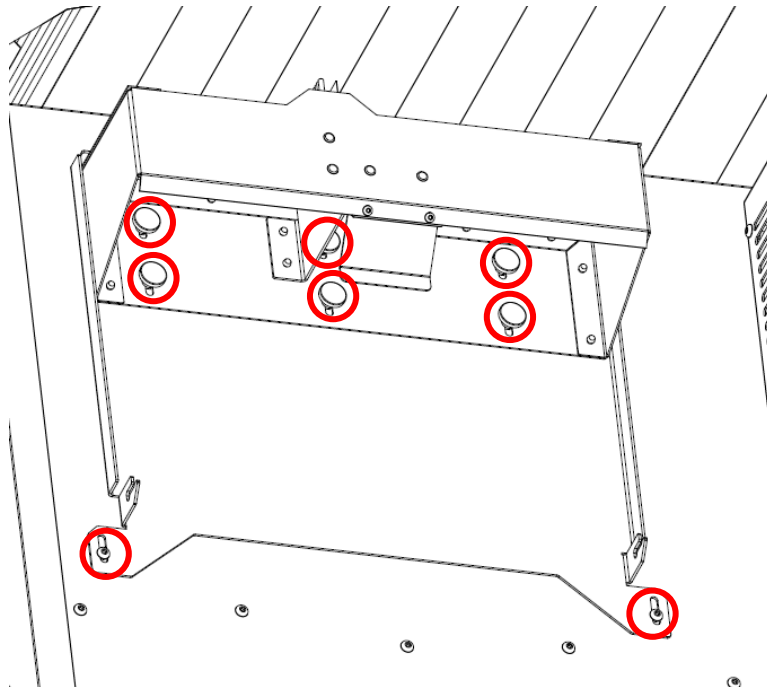

Fig. 15 Screws for adjusting the cleaning station
5. Use the spirit level from the accessories compartment (Fig. 15, point 6) of the printer to check that the printer is level with the ground. If necessary, level the device by tightening or unscrewing the individual feet so that the air bubble of the level is in the centre.
1. Loosen the four cleaning station adjustment screws marked in Fig. 15.
3. Tighten the screws loosened in step one above (Fig. 15)